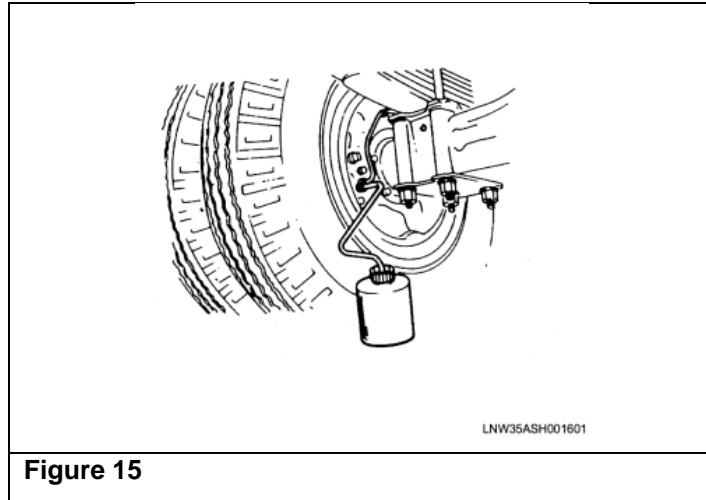

Figure 15
36. Place a 10mm box end wrench over the bleeder screw, attach a hose over the screw and allow the end to hang in a glass jar containing enough brake fluid to cover the end of the hose. (See Figure 15.)